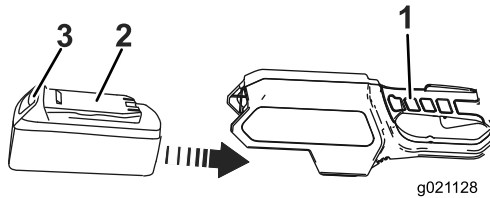

Figure 7
1. Align the tongue of the battery pack with the cavity in the handle housing (Figure 7).
2. Grasp the trigger handle (Figure 7).